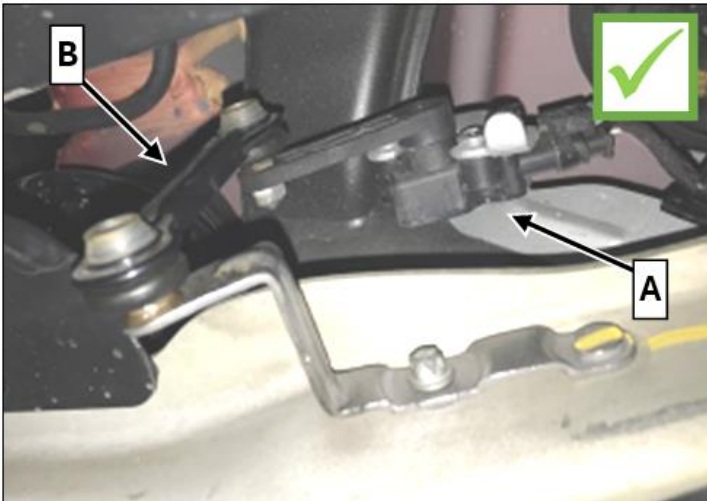

Figure 2 (OK picture)
i The installation position of the link rod (B) of the right rear axle level sensor (A) must be installed as shown in figure 2 (**OK picture**)!